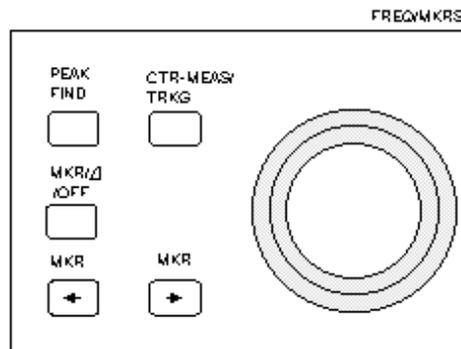

Figura 6. Mandos FREQ/MKRS.
1. Mandos **FREQ/MKRS**, Figura 6.